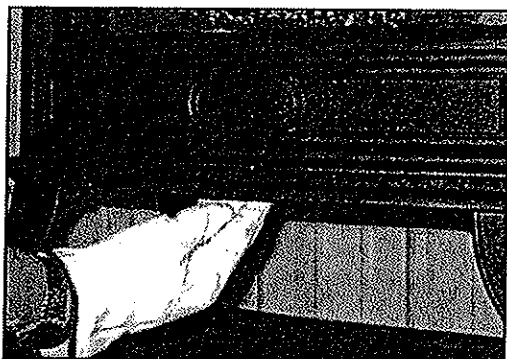

Figure 13
1. Remove the Bolt from the bottom of the unit that holds the Front Face in position. See Figure 13.